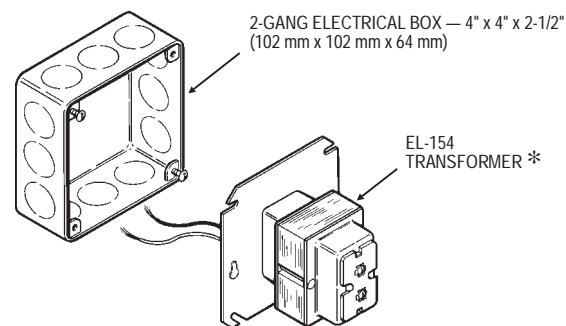

Figure 2
Step 1 — Install Transformer (Figure 2)